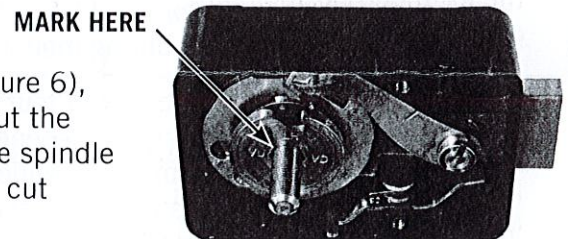

Figure 6
6. Mark the dial spindle flush with the top of the drive cam (Figure 6), then un-thread the dial from the drive cam so that you can cut the excess spindle at your mark. Be careful to avoid distorting the spindle threads. After cutting, slightly chamfer the end of the freshly cut spindle so that it can easily thread back into the drive cam.